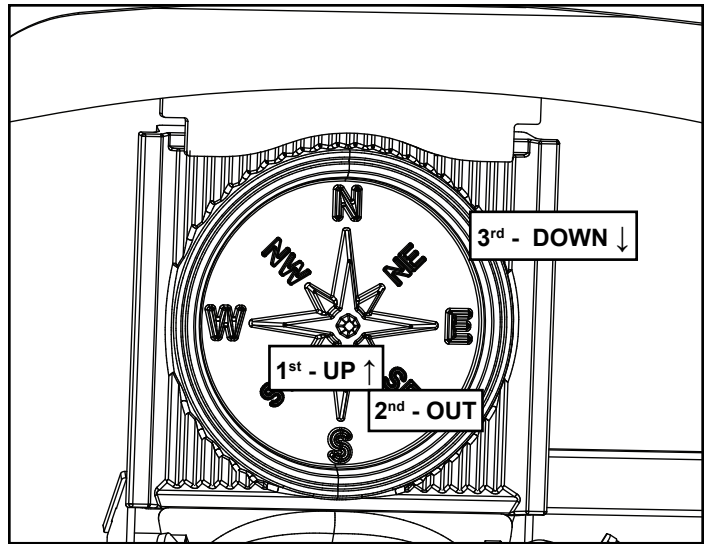

Figure 2.2
3. Pull downward on the corners of the medallion until the top is released from the retainer that keeps the top aligned when in place. Figure 2.2.